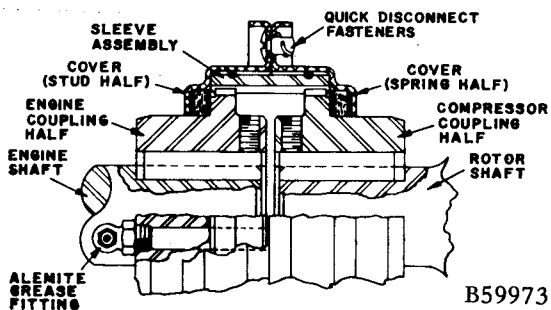

FIGURE 15. — DETAIL OF COUPLING
**COUPLING** (Figure 15) — The motor and compressor are direct connected by a gear-type flexible coupling. The coupling requires relubrication through the alemite fitting every 200 hours of operation with a light, separation resistant, nonhardening grease. Do not use cup grease.